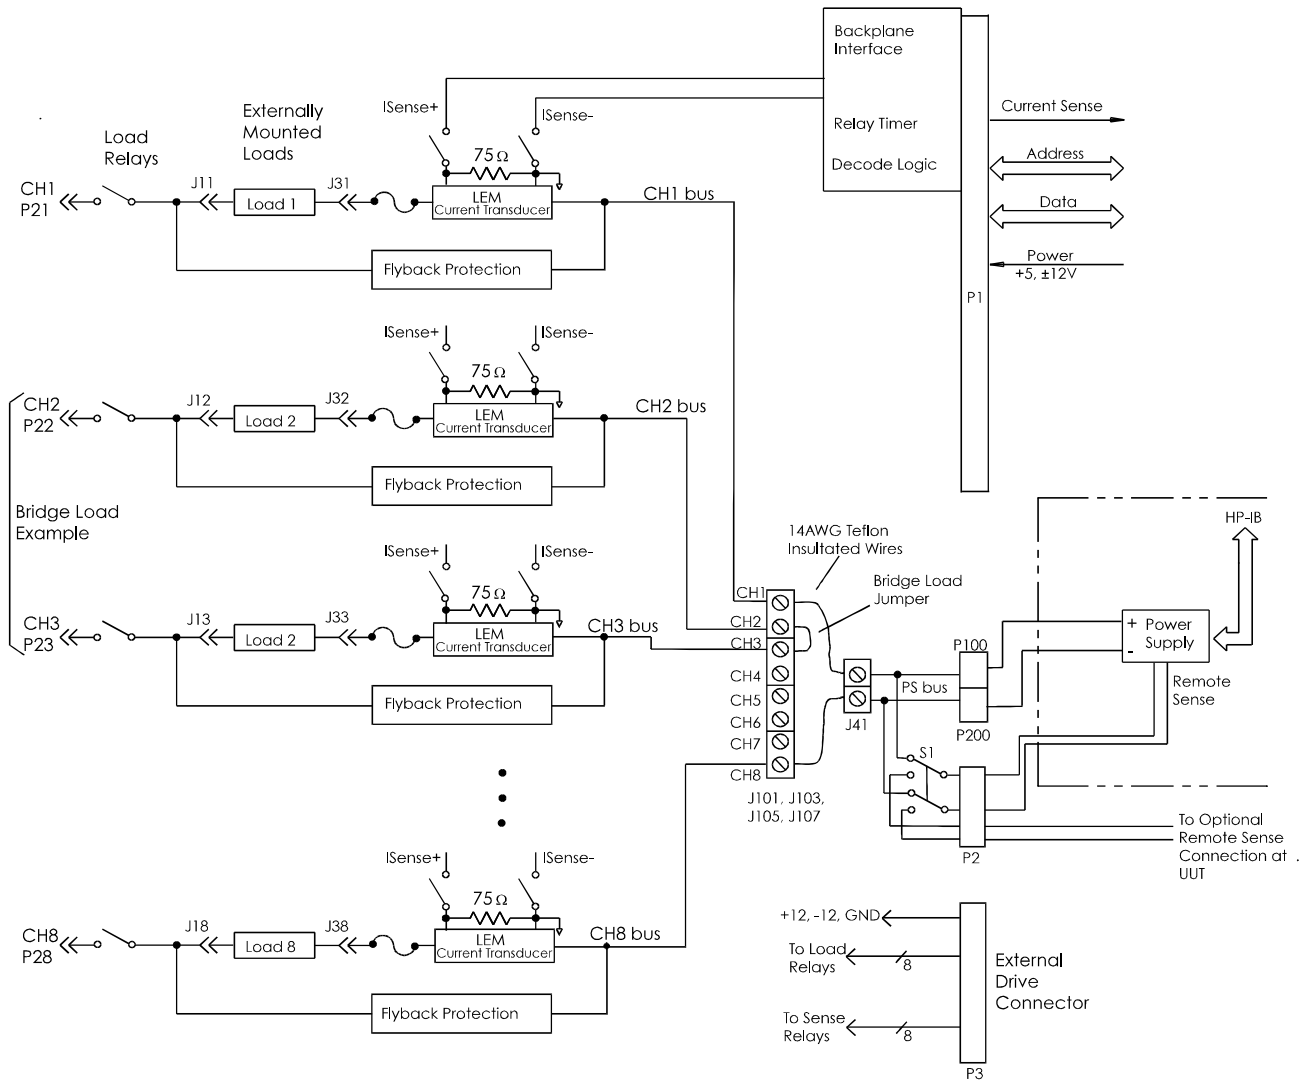
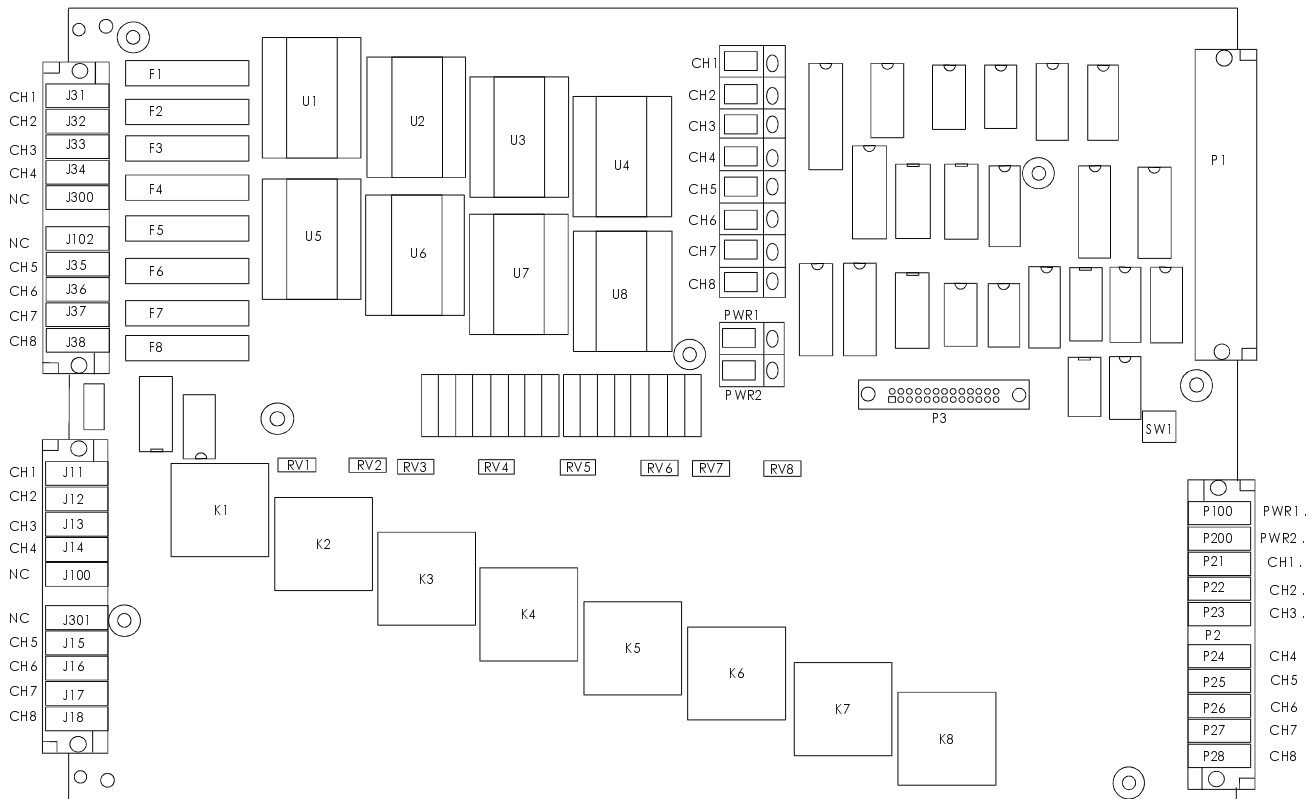

Figure 3-35. HP E6178B 8-Channel Heavy Duty Load Card Block Diagram
Figure 3-36. HP E6178B 8-Channel Heavy Duty Load Card Component Locator
Figure 3-35 shows a block diagram of the HP E6178B 8-Channel Heavy Duty Load Card typically configured with an external power supply. Figure 3-36 shows the component locator for the HP E6178B Load Card.
As shown in Figure 3-35, power supply connections for the loads are through P100 and P200 to PWR1 and PWR2 (J41) respectively. You must wire the power supply connectors to the individual channel connectors CH1 through CH8 (J101, J103, J105, and J107). Use at least a 14 AWG Teflon® insulated or 12 AWG vinyl insulated wire to carry 30 Amperes.
Figure 3-35 shows one possible power supply configuration. In this configuration, Channel 1 is configured for a single load connected to V+. Load 8 would be a short to provide a path return. Channels 2 and 3 are connected as a bridge load; a load that is “floating” with respect to the power system.
**Local / Remote Sensing** Switch S1 allows the external power supply remote sensing to be either local (P100/P200) or remote (through P2 to UUT). Refer to Figure 3-35.
The LEM current transducer module has a current gain of 1000:1 (primary to secondary, i.e., for a 1 amp primary current the secondary current is 1mA). The secondary of the LEM current transducer is connected across a precision 75Ω resistor, see Figure 3-35. The primary current is calculated by making a voltage measurement across this precision resistor and is determined by the equation:
The HP E6178 Load Card comes with provisions for user-installed flyback voltage protection. Figure 3-36 shows the location for the flyback protection devices RV1 to RV8.
The flyback protection devices should be installed with the positive side towards the UUT. On each of the 8 channels the high (+) side should be located as shown in the component locator diagram, Figure 3-36. MOV (Metal Oxide Varistor), or back-to-back zener diodes are recommended for flyback voltage protection.